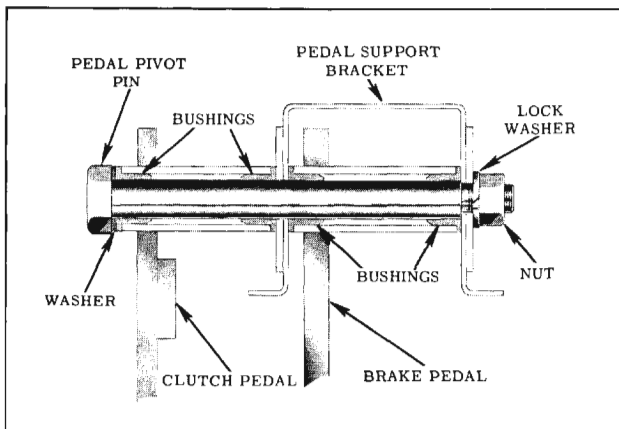

Fig. 7-108 Synchronesh Brake Pedal Attachment
1. Lubricate nylon bushings with Lubriplate and insert bushings into pedal mounting bracket. (Figs. 7-108, 7-109)